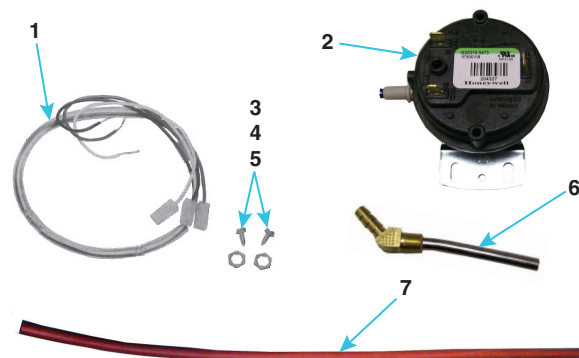

Figure 1. Replacement Pressure Switch Kit (Refer to Table 1)
- Ensure that all components listed shown in Figure 1 and listed in Table 1 are available before beginning installation.
Replace the pressure switch as follows. Item numbers in parentheses refer to Figure 1.